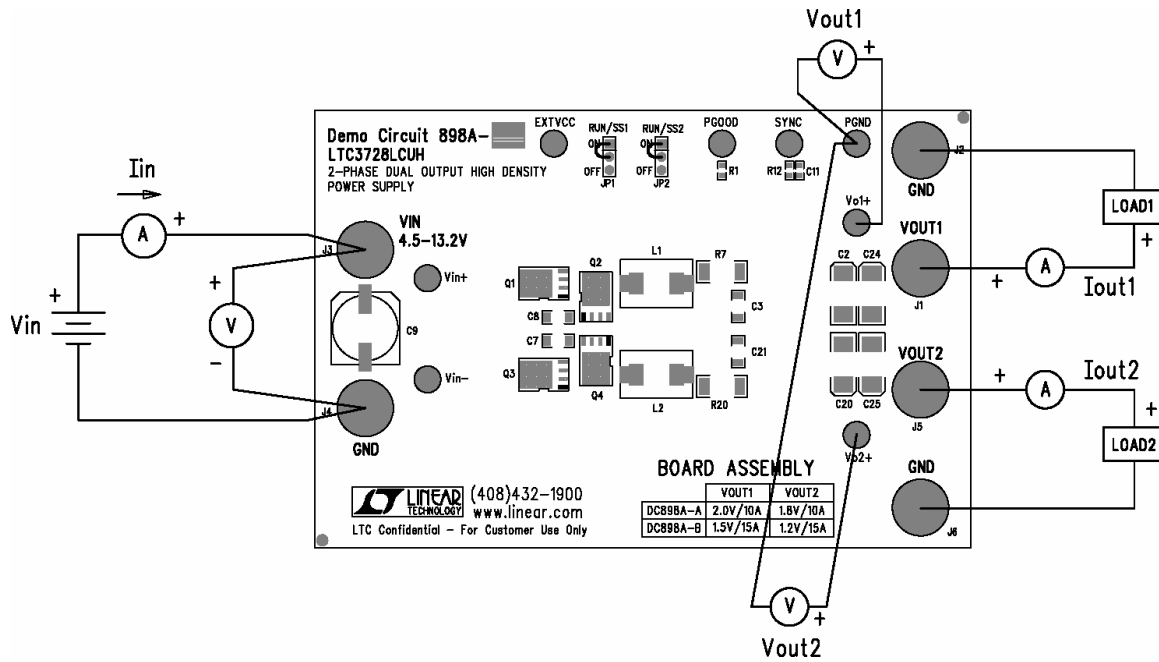

Figure 1. Proper Measurement Equipment Setup
Demonstration circuit 898 is easy to set up to evaluate the performance of the LTC3728LCUH. Refer to Figure 1 for proper measurement equipment setup and follow the procedure below:
1. With power off, connect the input power supply to VIN and GND. Connect the load between VOUT1, VOUT2 and GND. Preset the load current at 0A (minimum). Refer to Figure 1 for correct test set up. The RUN/SS1 and RUN/SS2 jumpers should be at “on” position.